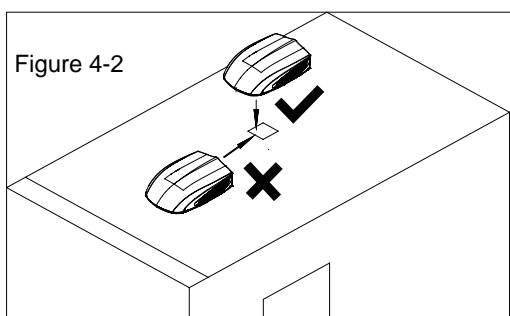

Figure 4-2
- 1) Place the outdoor unit at the roof of vehicle; lift the outdoor unit and then place the outdoor unit after drilling holes at the roof of vehicle. Do not drag the outdoor unit. Otherwise, the sealing strip may fall off (see Figure 4-2).